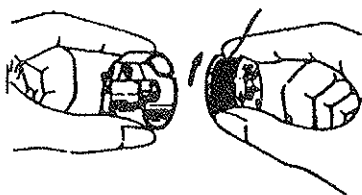

Fig.8.
1. Hold bobbin case so that thread unwinds in the direction shown in Fig.8, and put bobbin in bobbin case.